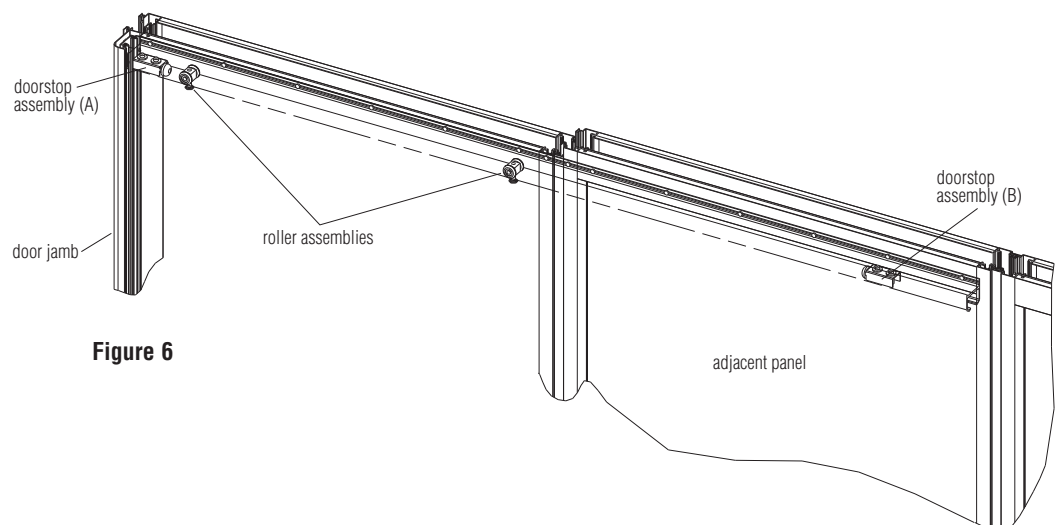

Figure 6
12. Hang and level the door. Slide one doorstop assembly (A) into the rail followed by the two roller assemblies (less mounting brackets). Then, slide in the other doorstop (B) (Figure 6). Place the door so the bottom of the door slips over the nylon glide of the adjustable base bracket. Lift one side of the door upward and engage the shoulder bolt of the roller assembly into the slot in the hanger bracket previously attached to the top of the door. Repeat on the other side of the door. Adjust height and level of door, then tighten lock nut on shoulder bolt.